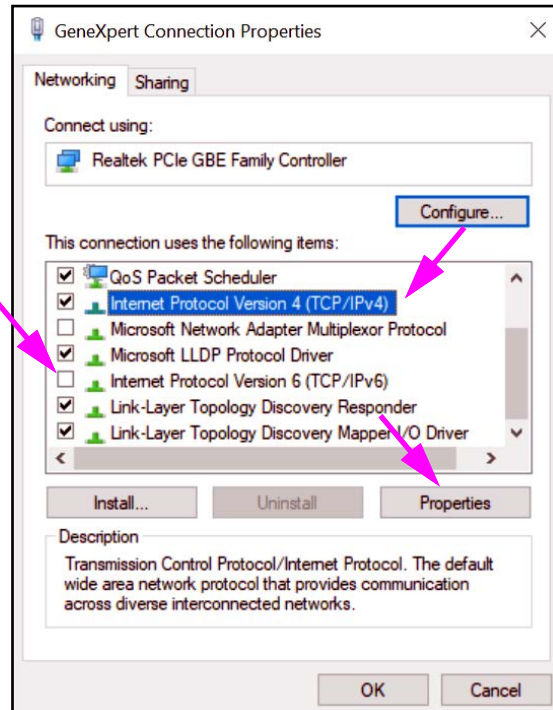

Figure 2-28. GeneXpert Connection Properties Screen
5. Click **Change adapter settings**. The Network Connections screen appears. See Figure 2-28.